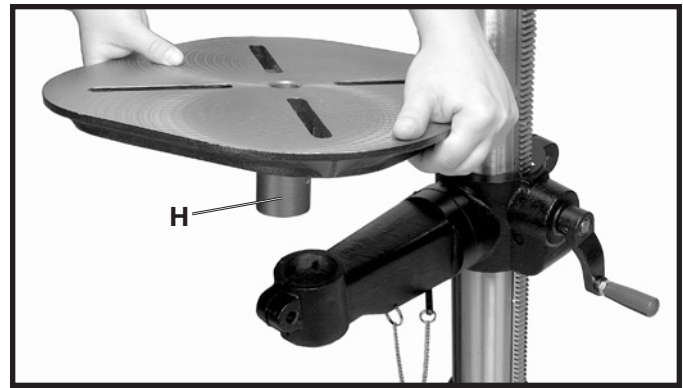

Fig. 9
9. Insert table (H) Fig. 9, into hole in table bracket as shown.